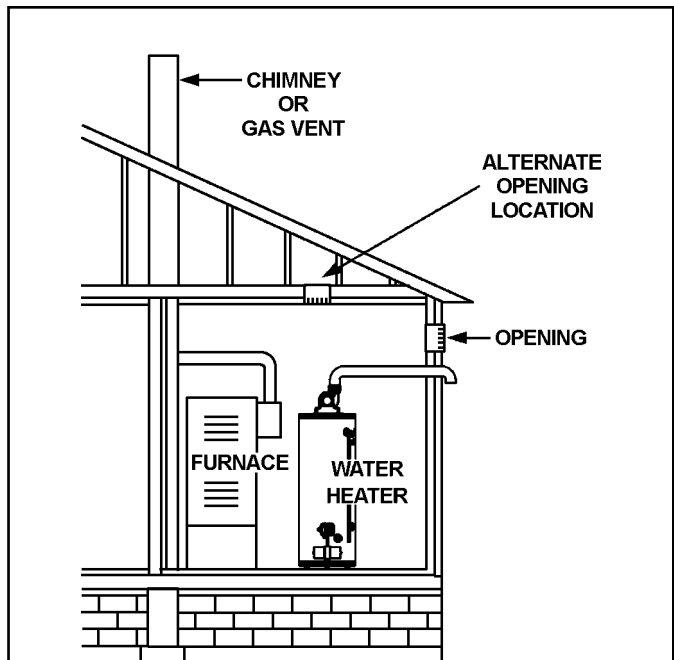

Figure 20.
5. Alternatively a single permanent opening may be used when communicating directly with the outdoors, or with spaces that freely communicate with the outdoors. The opening shall have a minimum free area of 1 square inch per 3,000 Btu/hr of total input rating of all equipment in enclosure (see Figure 20).